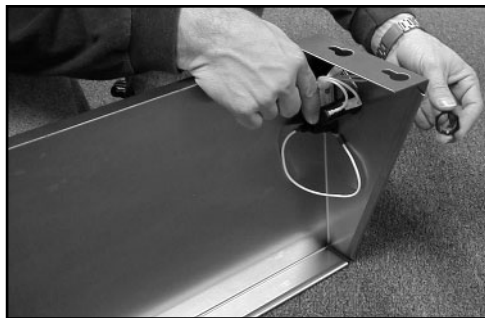

Fig. 3
3. Insert the threaded section of the ignitor through the hole in the shelf and secure to shelf using the lock nut. **(Use the ignitor assembly diagrams to determine which ignitor goes with which shelf depending on grill model.)** Tighten Securely. (See Fig. 3)